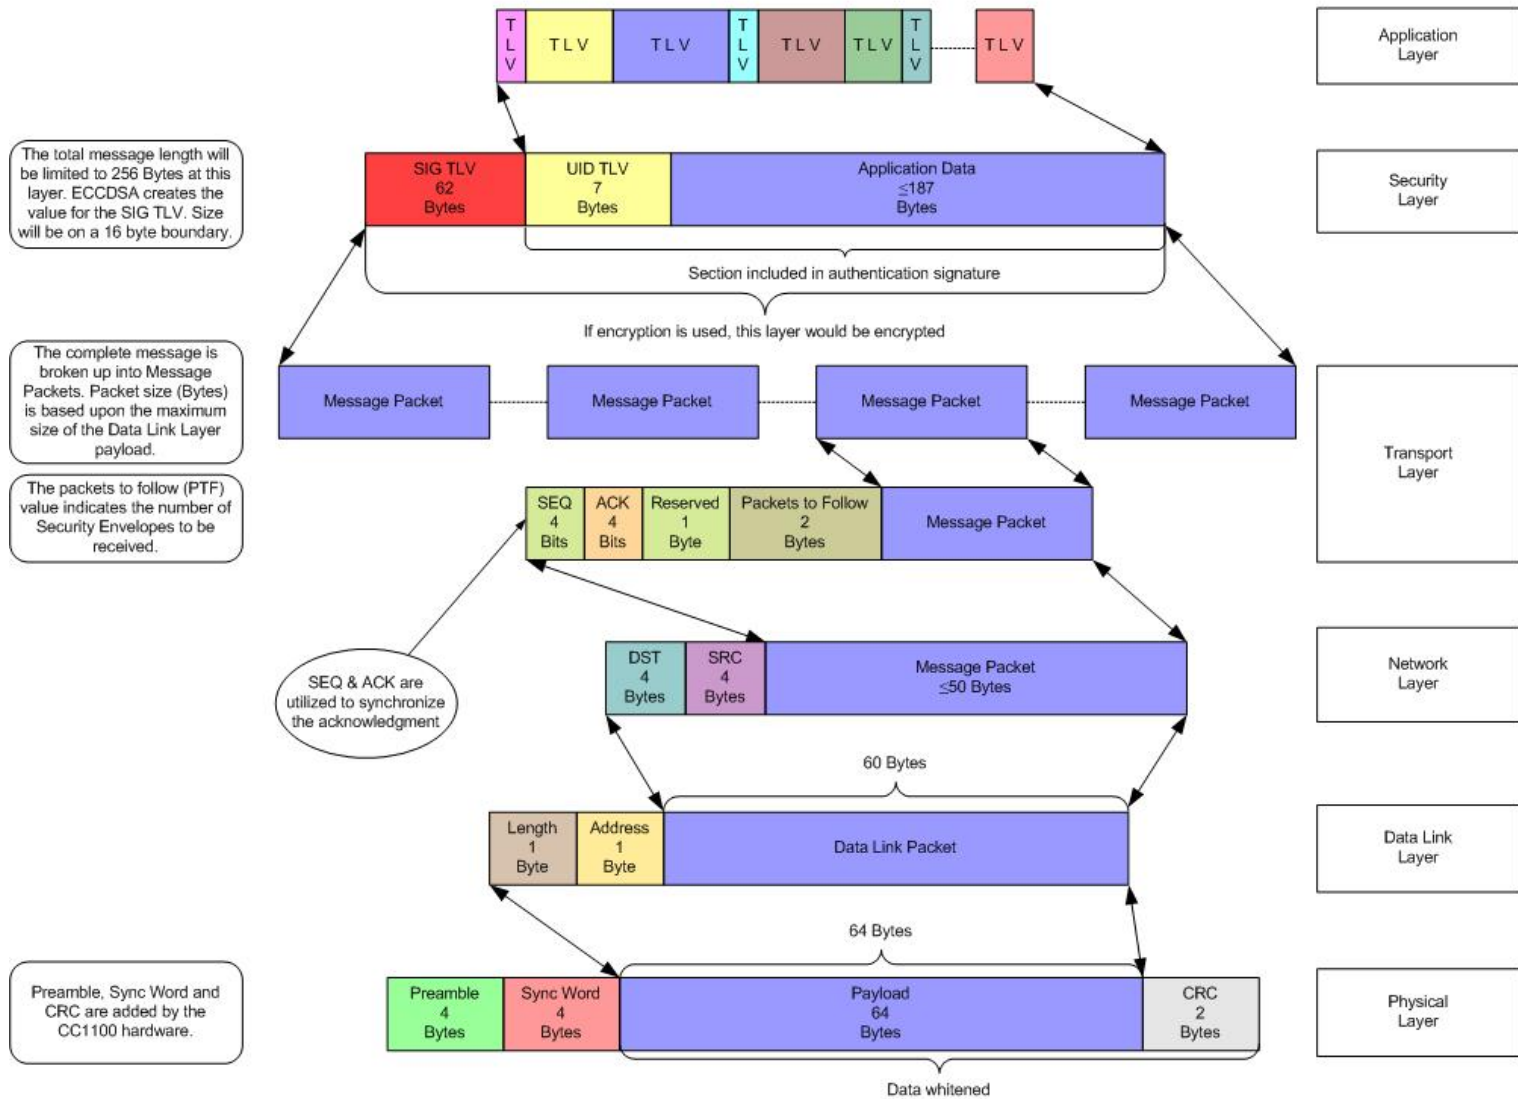

Figure 6 Type Length Value (TLV) Format
- Number of successful and unsuccessful TLVs received from this Seal (based only on properly formatted TLV Header information). See Figure 6 for a breakdown of the TLV information and its proper formatting.
Figure 6 shows the TLV message construction from the Physical Layer all the way up to the Application Layer. The TLV message format is very flexible as it allows for new message types to be created at some future point in time while allowing all previous message types previously created to be fully backwards compatible.